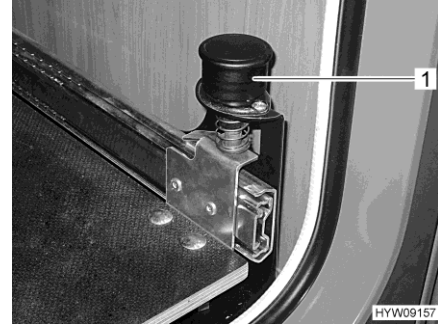

Fig. 130 Knob with locking device
- Pull the knob (Fig. 130,1) upwards. The gas bottle compartment pull-out is unlocked.